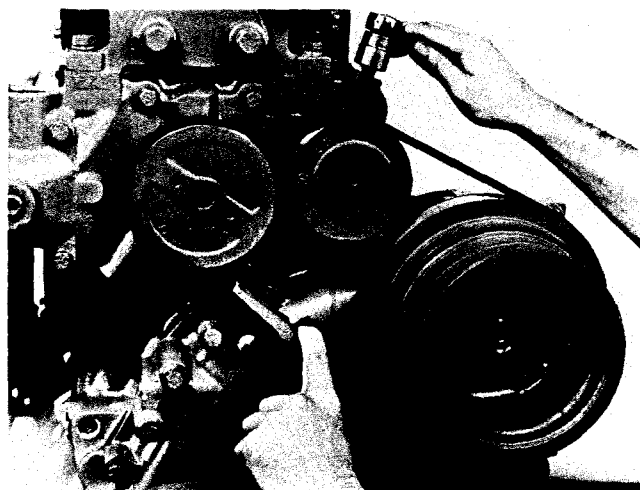

Fig. 14-41, (N114272). Adjusting belt tension
2. Position belts over water pump, idler and accessory drive pulleys. Tighten idler adjusting screw to obtain 120 to 140 lb [534 to 623 N] belt tension using ST-968 or ST-1274 Belt Tension Gauge. Fig. 14-41.